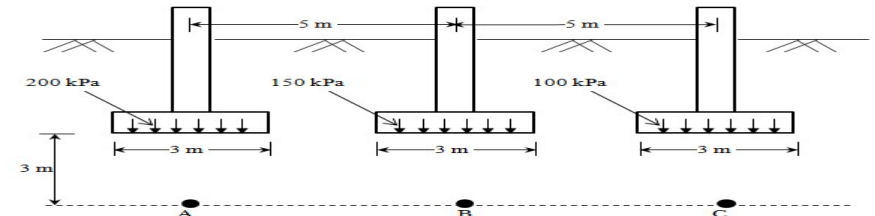

Figure 6
7. (a) Three parallel strip footings (Figure 6) 3 m wide each and 5 m apart centre to centre transmit contact pressures of 200, 150 and 100 kN/m², respectively. Calculate the vertical stress due to the combined loads beneath the centres of each footing, i.e., at points A, B and C at a depth of 3 m below the base. Assume the footings are placed at a depth of 2 m below the ground surface. Use Boussinesq's equation for line loads.